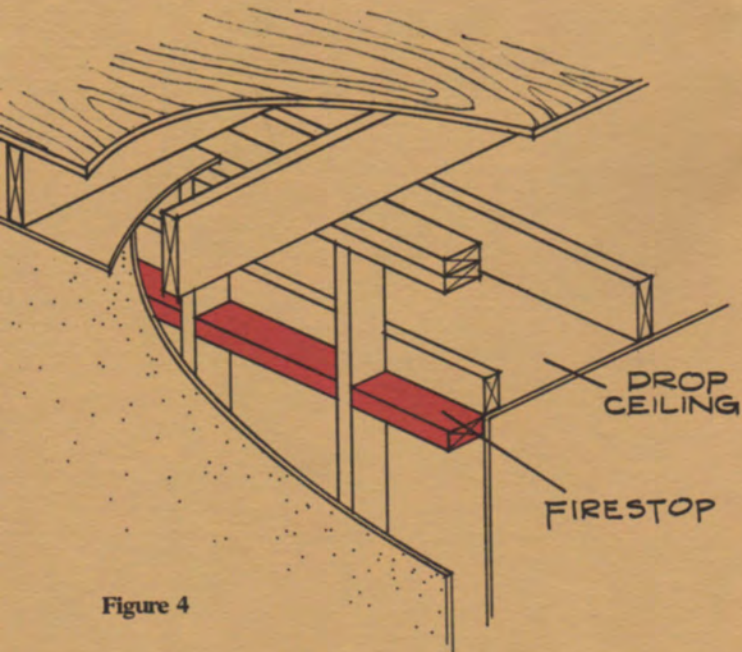
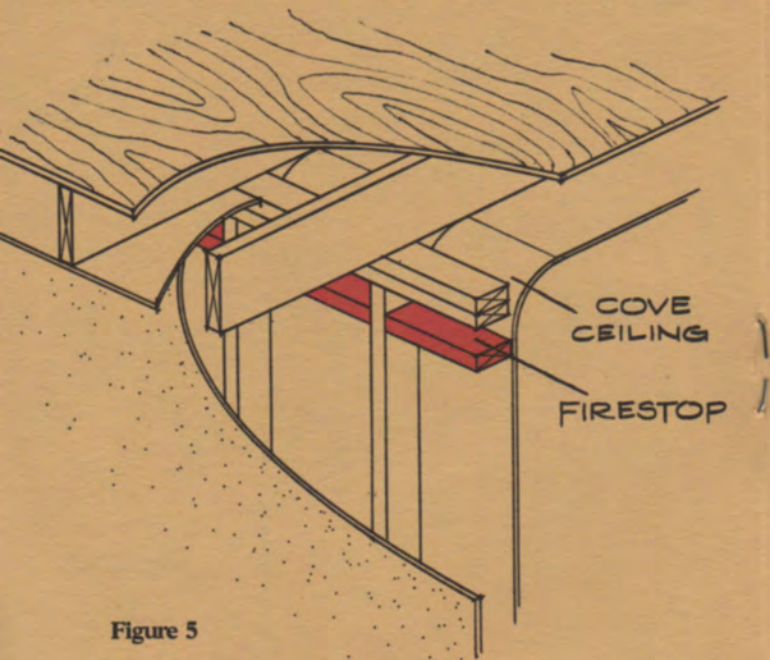

Figure 4
Figure 5
(2) At all interconnections between concealed vertical and horizontal spaces such as occur at soffits (Figure 3), drop ceilings (Figure 4), cove ceilings (Figure 5).